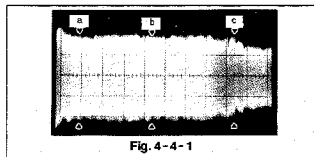

Fig. 4-4-1
- ⑤ Turn the manual tracking adj., verify that the amplitude of the FM waveform varies while remaining flat.
- ⑥ Set the manual tracking for maximum amplitude. Adjust vertical gain of the oscilloscope so that the waveform amplitude equals 5 divisions on the scope graticule.
- ⑦ Adjust the manual tracking adj. so that the middle portion (Portion "b" in Fig. 4-4-1) of the waveform is 80% the maximum amplitude, i.e. 4 divisions of the scope graticule. Verify that the FM waveform amplitude at drum supply side (portion "a" in the figure) and takeup side (portion "b" in the figure) are at 3.2 divisions of graticule.
- ⑧ If these values are not met, repeat the adjustment steps.